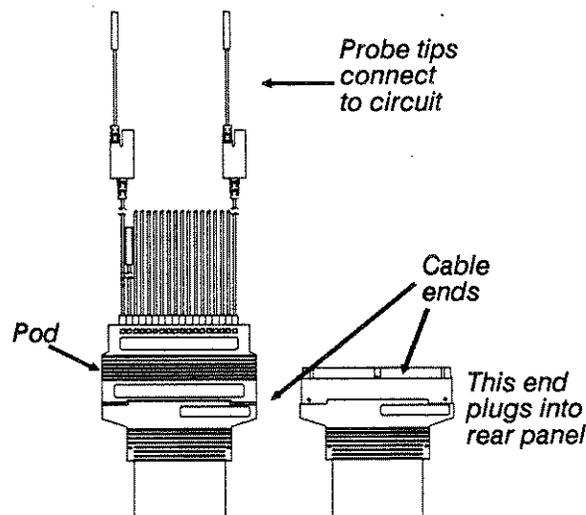
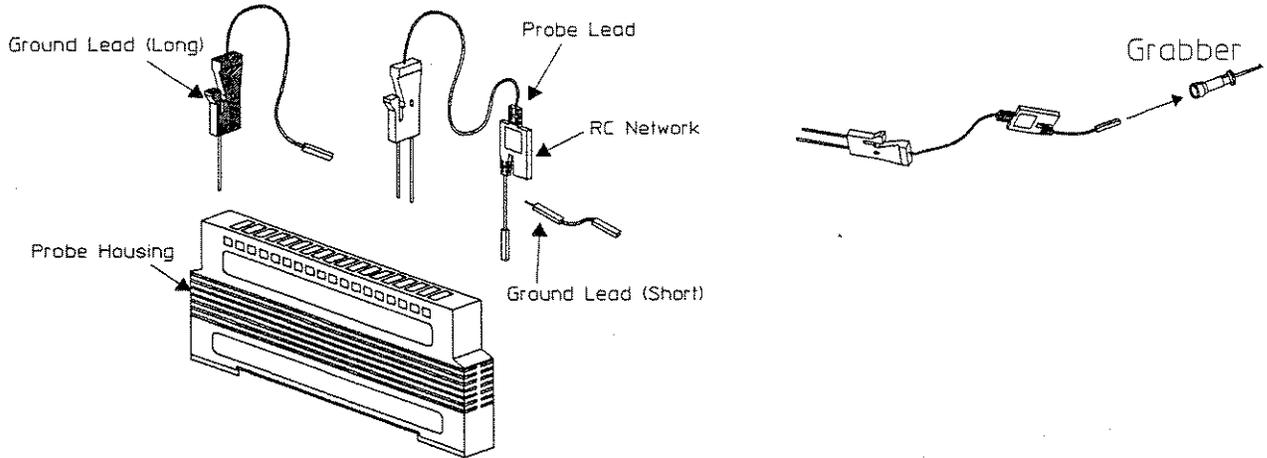
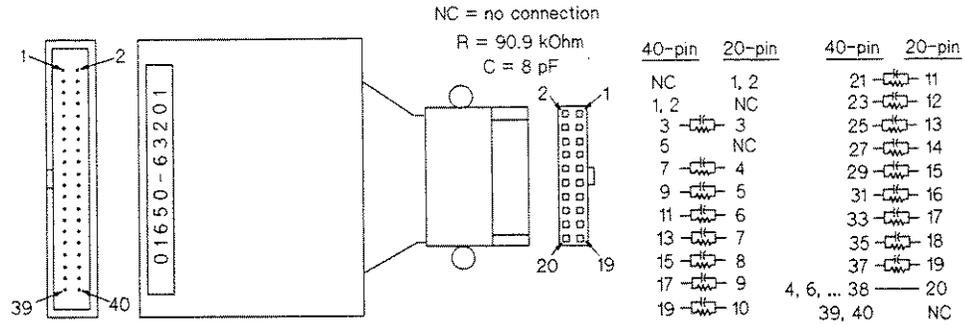

Figure 13-3. Input Cable and Pod
Figure 13-5. Digital Input Pod Assembly
Figure 13-9. Optional Termination-Adapter Pod
There are three identical input cables and input pods supplied with the HP 3563A. During installation these are labeled as Pods 1, 2, and Q. See figure 13-3. The input cables should be connected to the device under test with either the pod tips or the optional termination-adaptor pod. See figure 13-9. These contain signal-conditioning circuitry. The input pods are:
You can connect the probe directly to test pins on your target system or to grabbers. Grabbers are spring-loaded connecting hooks designed to fit on adjacent IC pins. See figure 13-5. If you want to connect to test pins without using the grabbers, the pins must be 0.63 mm (0.025 in.) square or round pins with a diameter between 0.66 mm (0.026 in.) and 0.84 mm (0.33 in.). Most IC test clips work.
Probes can be grounded either through a common pod ground or with a ground connection that exists on each of the probe ends. To reduce noise and aid clocking of high-speed signals, use probe grounds close to the signal source; clock grounding is the most critical. See figure 13-5. There are two ways to connect the digital input signal lines to the target system: with the input probes defined here or with the termination adapter pod shown in figure 13-9. Both of these methods provide the RC signal-conditioning network required by the analyzer inputs ($90.9\text{ k}\Omega$ in parallel with 8 pf). To disconnect a probe from the pod assembly, insert the tip of a ball-point pen in the latch opening while gently pulling the probe out of the probe housing.
- HP 01650-63201 termination adapter pod (for input cables); see figure 13-9. A 40-to-20-pin adapter containing the same signal conditioning circuits as are in the standard input pod. The 20-pin connector is a 2×10 position, 4-wall, low-profile header connector, 3M® Series 3592.